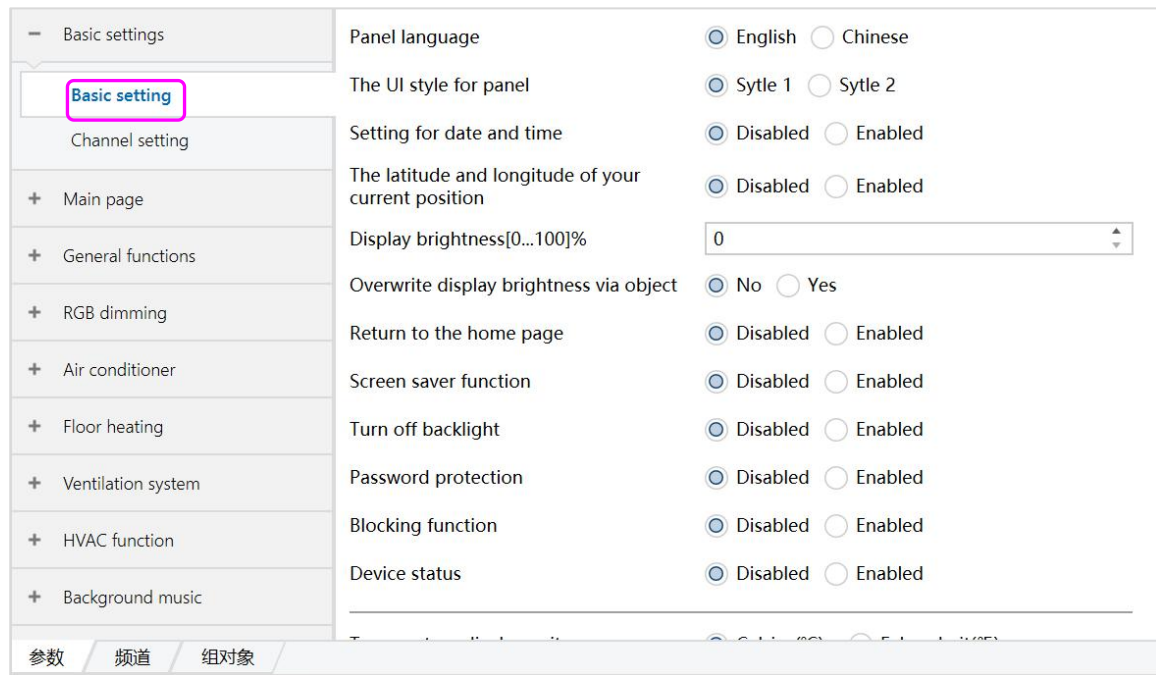

Figure 6.1.1
Open the smart touch screen Panel parameter setting interface in ETS5, as shown in Figure 6.1.1.
(1) Click on the option in the red box above to set the relevant parameters, as shown in Figure 6.1.1.